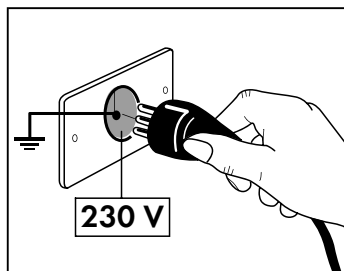

Fig. 1
- Make sure that the electrical installation (230V- 50Hz) is earthed and equipped with differential switch, as required by applicable safety regulations **(Fig. 1)**